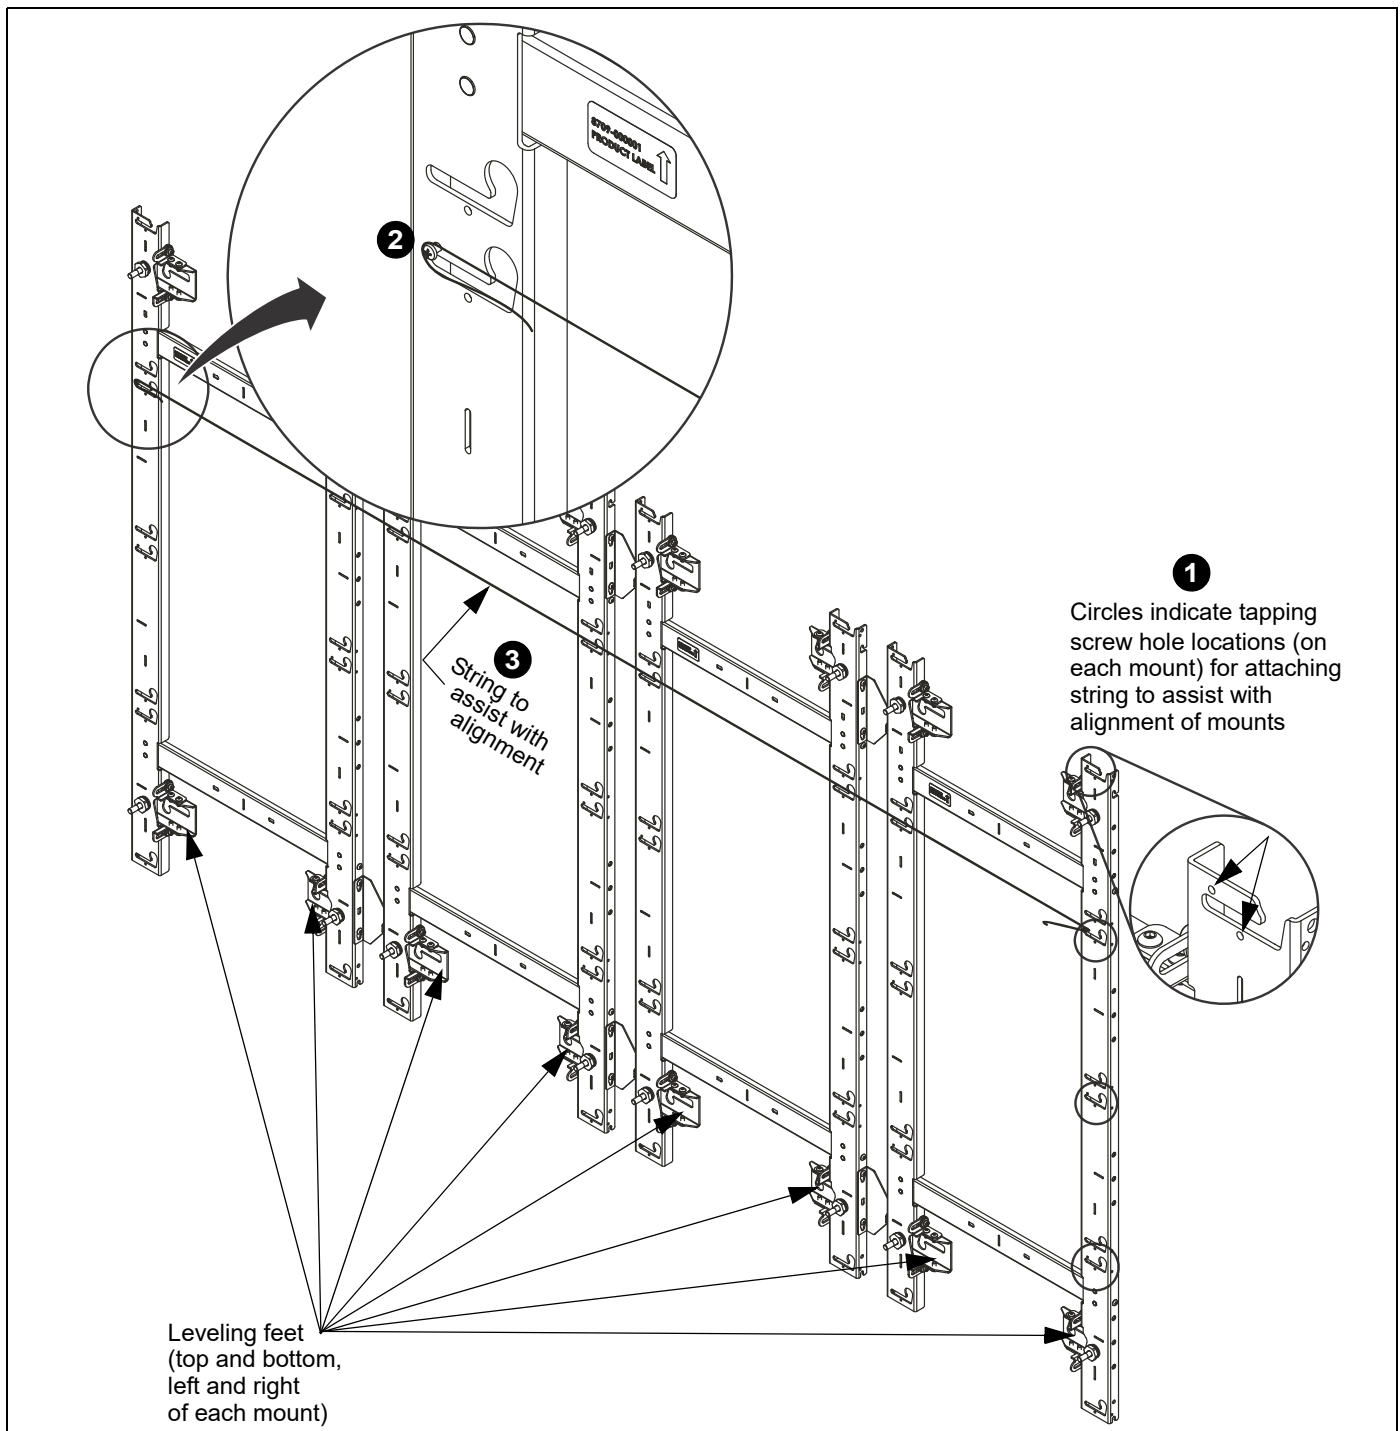

Figure 17
1. The holes around mounting slots on the mounts can be used for the included #10 x 1/2" self-tapping screws (C) to help attach a string to help in aligning and plumbing the mounts.
**NOTE:** There are multiple points on each mount where the screws can be installed for the plumb line. (See Figure 17)
2. Loosely install the self-tapping screws then wrap the string around the screw and tighten. (See Figure 17)
3. Run the string tightly between the same hole at each end of the row of mounts. (See Figure 17)